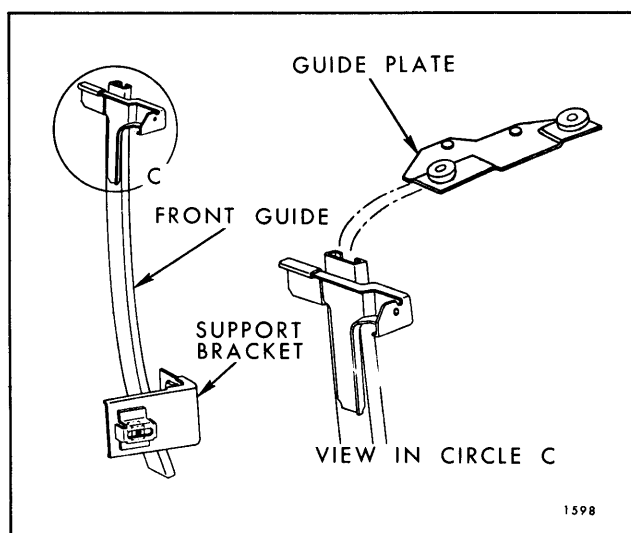

Fig. 6-102—Front Guide and Guide Plate -
7. Remove front guide and guide plate as an assembly through access holes (Fig. 6-102).